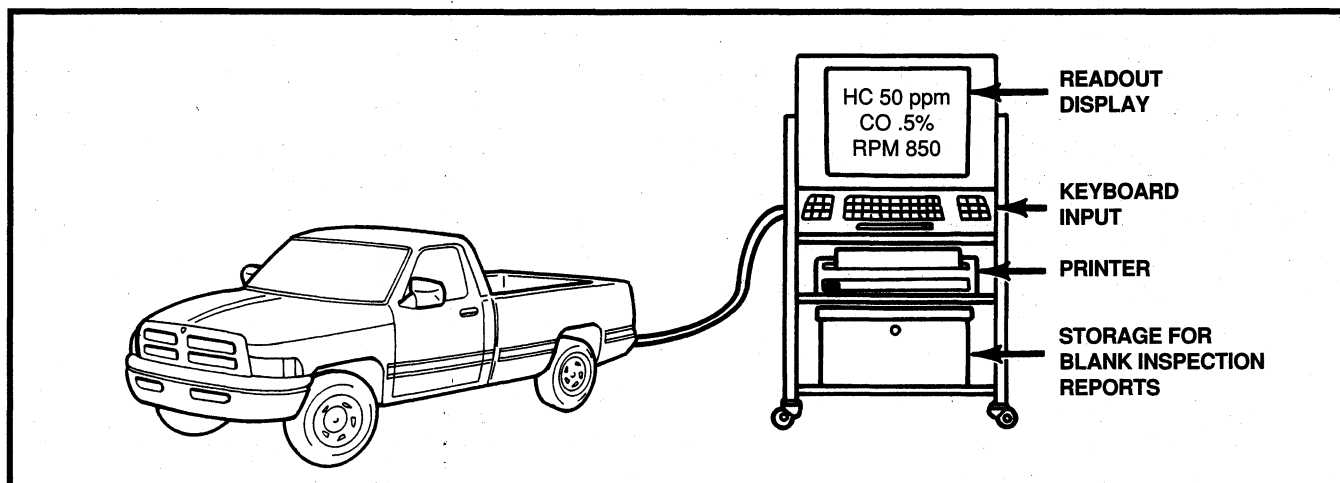

Figure 3 Equipment Used in a Basic I/M (Two-Speed Idle) Test
This I/M exhaust test, the most common of the basic tests, reads hydrocarbon (HC) and carbon monoxide (CO) emissions concentrations of vehicles at two idle speeds (fig. 3). The test is performed as follows: